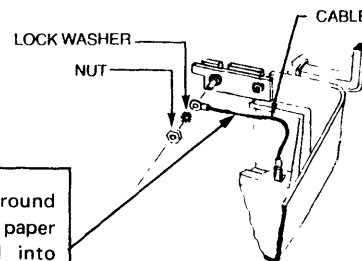

FIGURE 2
2. Attach ground cable (location: inside right rear of printer) by faston connection on one end and using lockwasher and nut on other end as shown (see Figure 2).